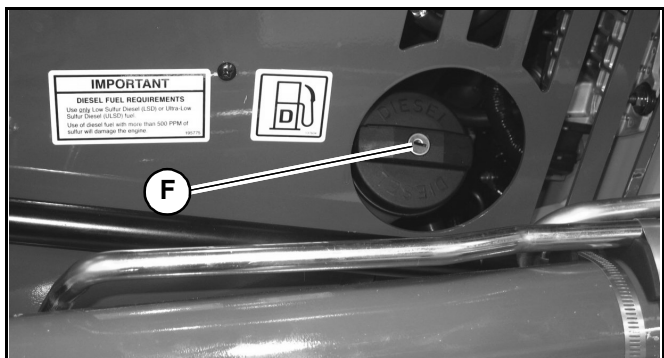

Fig. 100 – Fuel Filler Cap
2. Using the ignition key to unlock fuel cap (F, Fig. 100) and remove the fuel cap from the fuel filler neck.